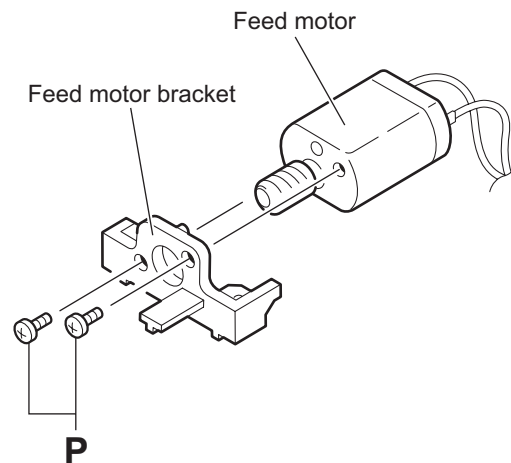

Fig.21
- (3) Remove the two screws **P** attaching the feed motor to the feed motor bracket. (See Fig.21.)